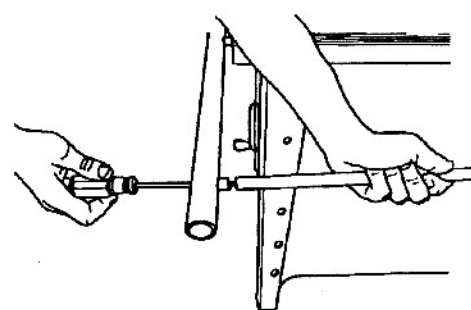

Fig. A-13
17. While holding the screw in place with the screwdriver, attach the tube brace and tighten it, as shown in Fig. A-13.